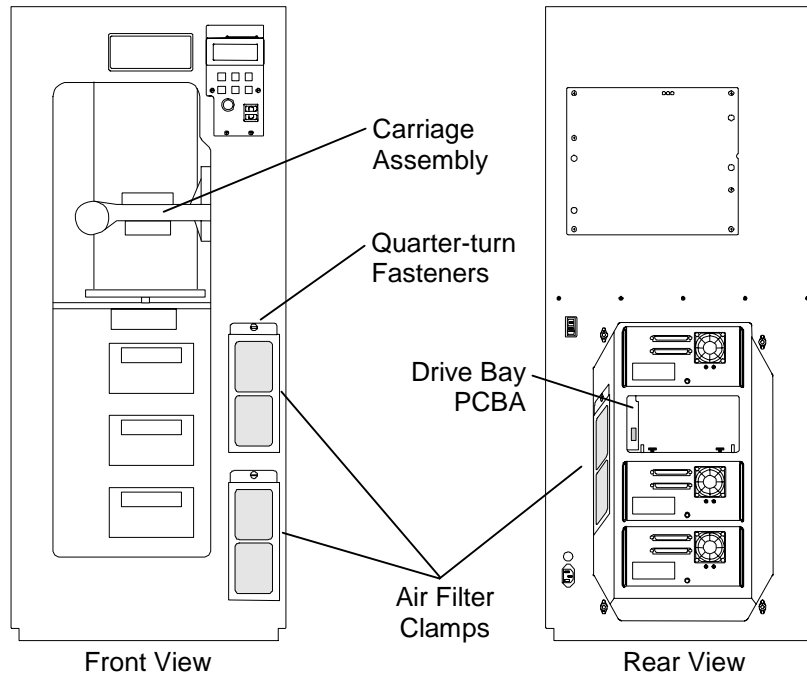

Figure 7-20 TLS Front and Rear Views - 6460 Model Shown with Rear Access Cover Removed
Refer to Figure 7-20
Refer to **Figure 7-20**.
Refer to Figure 7-20.
14. Replace the Air Filter Clamp and secure it by turning the quarter-turn fastener clockwise (Figure 7-16 and Figure 7-20).